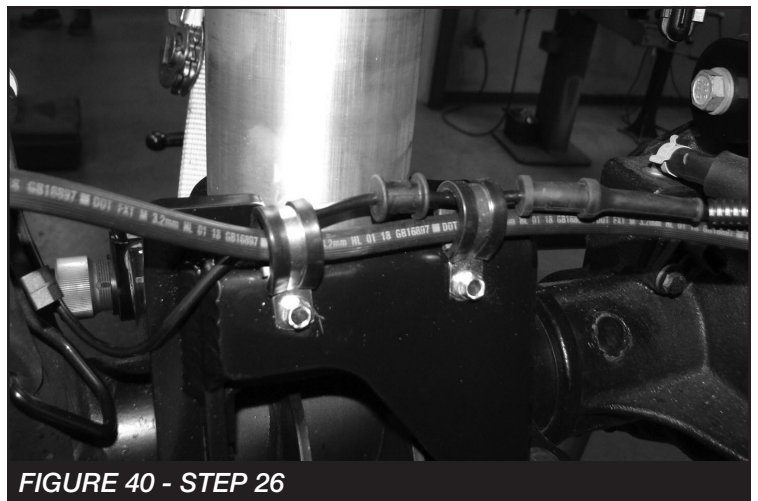

FIGURE 40 - STEP 26
26. Route the brake line hose and speed sensor cable together and mount them to the lower mount using the supplied rubber clamps and self tapping screws. **SEE FIGURE 40**